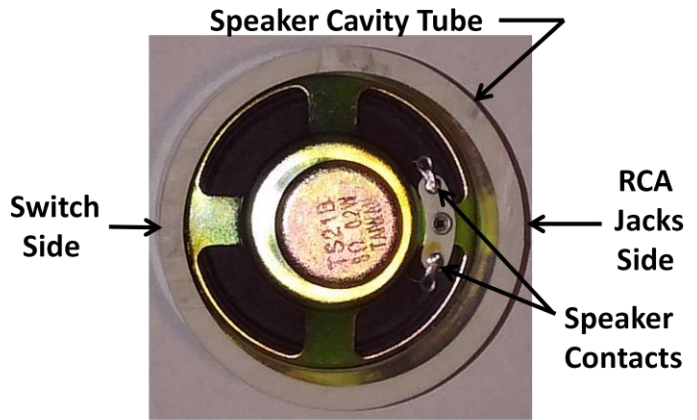

FIG. 5
- 1 – After the glue on the **Speaker** and **Cover Disk** is dry, place the **Speaker** face down on a flat surface, so the magnet is up so the speaker contacts are on the right side as shown in **figure 5 and 7B**.
- 4 – Turn the tube over (glued side facing down) and orientate the “**Speaker Cavity**” tube (5) as shown in **figure 5 and 7B**. Lower the tube down onto the back of the Speaker frame. Apply a small weight to the “**Speaker Cavity**” tube to apply pressure so the speaker self-aligns to the “**Speaker Cavity**.” See figure 5 and 7A&B.